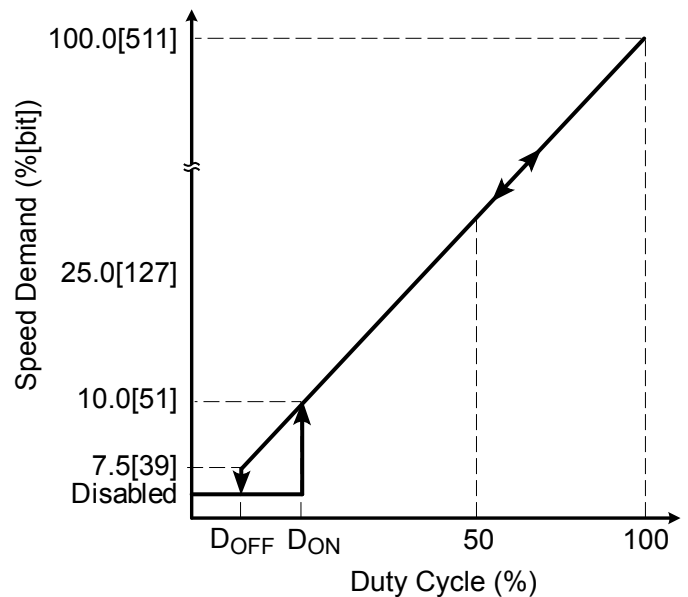

Figure 3: A4949 PWM Speed Input Characteristic
**A4949 – PWM Pin Duty Cycle Input.** A duty cycle measurement circuit converts the applied duty cycle to a demand value (9-bit resolution) to control speed of the fan. The motor drive will be enabled if the duty cycle is greater than  $D_{ON}$  (10% (typ)) (Figure 3). The PWM input is filtered to prevent spurious noise from turning the IC on or off unexpectedly.